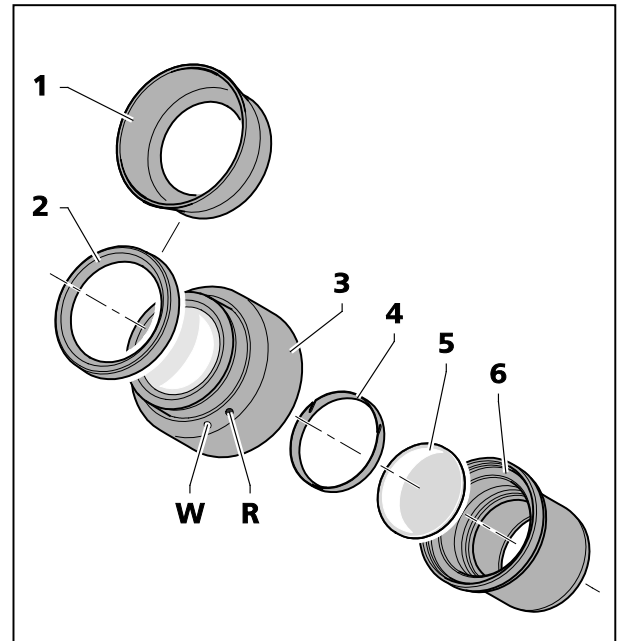

Fig. 12 Inserting the eyepiece plate
The eyepieces feature rubber protection rings for spectacles to avoid the spectacles being scratched. These rings may be replaced at choice by reversible eye cups (Fig. 12/1).
- To this effect remove the protection rings for spectacles (Fig. 12/2) from the eyepieces and position the eye cups (Fig. 12/1).
- Unscrew stop (Fig. 12/6) from the eyepiece (Fig. 12/3).
- Pull locking ring (Fig. 12/5) out.
- Insert eyepiece plate (Fig. 12/4).
The slight image offset which is due to the additional glass distance is taken into account on the diopter scale by the zero position not being indicated by the white dot (Fig. 12/W), but by a red dot (Fig. 12/R).